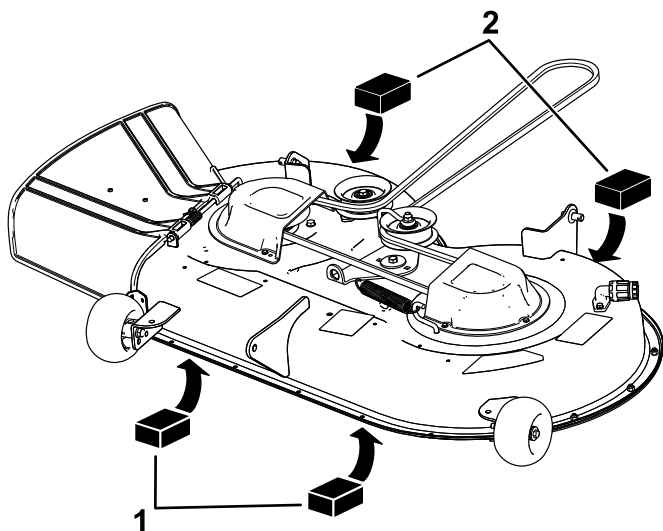

Figure 61
4. Place 2 blocks, each having a thickness of 6.6 cm (2-5/8 inches), under each side of the front edge of the deck but not under the anti-scalp roller brackets (Figure 61).
5. Place 2 blocks, each having a thickness of 7.3 cm (2-7/8 inches), under the rear edge of the cutting deck skirt, 1 on each side of the cutting deck (Figure 61).